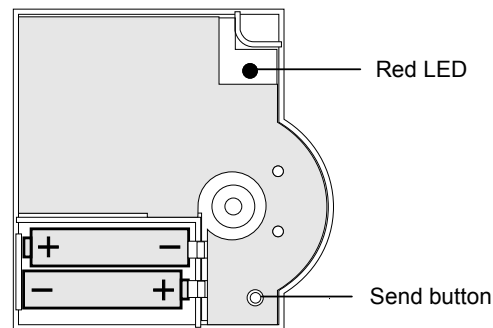

Fig. 12: Battery polarity and send button
- ▶ Insert the supplied AA batteries with the correct battery polarity (see Fig. 12).
- Insert the batteries with the right polarity into the battery compartment (see Fig. 12, Page 6).